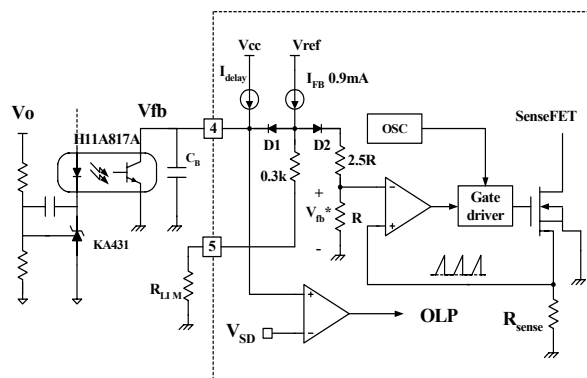

Figure 6. Pulse width modulation (PWM) circuit
2. Feedback Control : FSCM0765R employs current mode control, as shown in Figure 6. An opto-coupler (such as the H11A817A) and shunt regulator (such as the KA431) are typically used to implement the feedback network. Comparing the feedback voltage with the voltage across the R_{sense} resistor makes it possible to control the switching duty cycle. When the reference pin voltage of the KA431 exceeds the internal reference voltage of 2.5V, the H11A817A LED current increases, thus pulling down the feedback voltage and reducing the duty cycle. This event typically happens when the input voltage is increased or the output load is decreased.
2.1 Pulse-by-pulse current limit: Because current mode control is employed, the peak current through the Sense FET is determined by the inverting input of PWM comparator (V_{fb}*) as shown in Figure 6. When the current through the opto transistor is zero and the current limit pin (#5) is left floating, the feedback current source (I_{fb}) of 0.9mA flows only through the internal resistor (R+2.5R=2.8k). In this case, the cathode voltage of diode D2 and the peak drain current have maximum values of 2.5V and 3A, respectively. The pulse-by-pulse current limit can be adjusted using a resistor to GND on current limit pin (#5). The current limit level using an external resistor (R_{LIM}) is given by